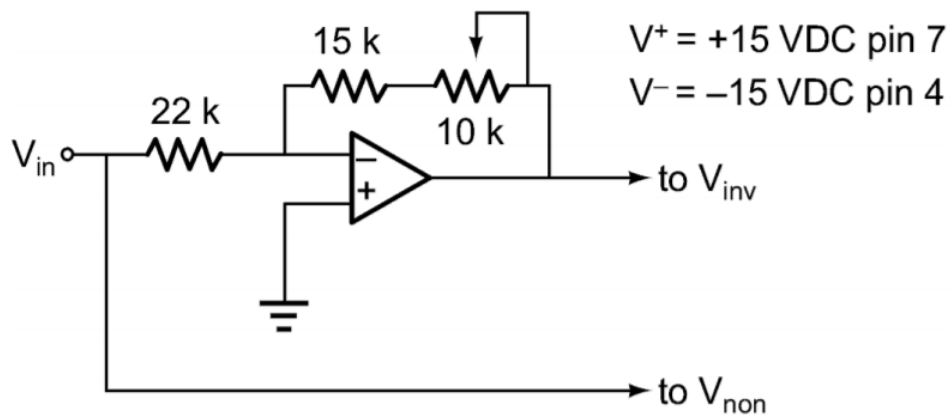

Figure 6.5.2
11. Assemble the circuit of Figure 6.5.2. Adjust the potentiometer to set the voltage gain to precisely -1 . This circuit is a simple phase-splitter and is used to generate a differential input signal.
12. Connect the circuit of Figure 6.5.2 to the original circuit as shown.